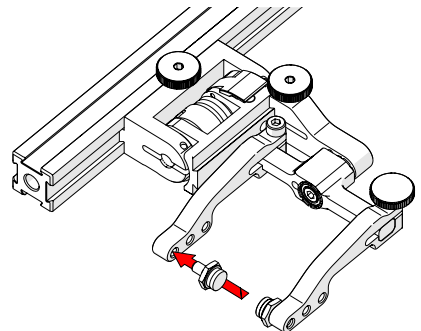

Fig. 133 - Place pivot buttons
4. Using the supplied 3/8 in wrench, place the pivot buttons (Fig. 133) farthest from the yoke for maximum wedge clearance.